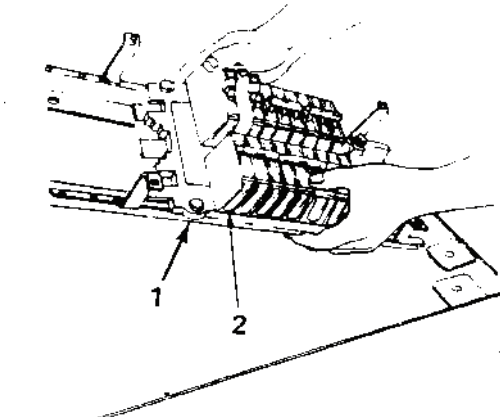

Figure 1. DISE Circuit Breaker Assembly
4. Remove screw (Figure 1, Item 1) securing circuit breaker assembly (Figure 1, Item 2).
13. Install circuit breaker assembly (Figure 1, Item 2) and secure with screws (Figure 1, Item 1).